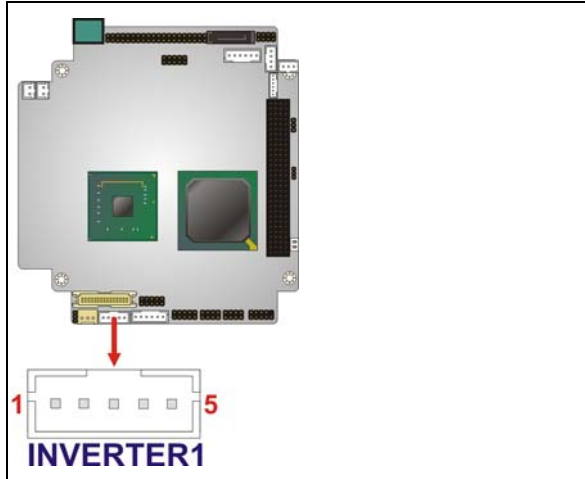

Figure 3-12: LCD Inverter Connector Location
- CN Location:** See **Figure 3-12**